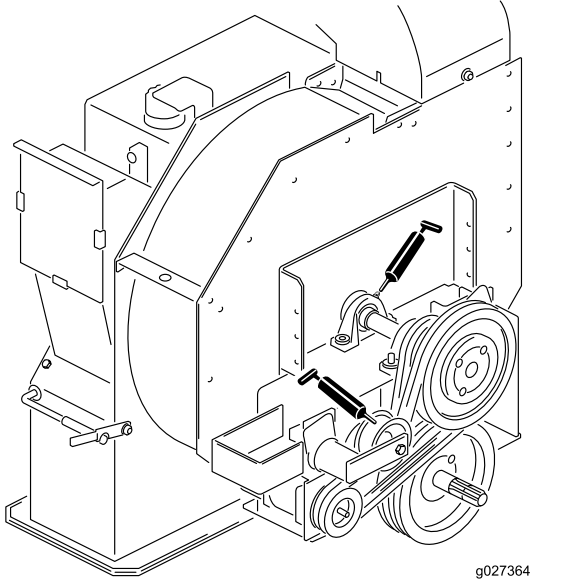

Figure 12
2. Grease the fittings on the fan shaft bearings as illustrated in Figure 12.